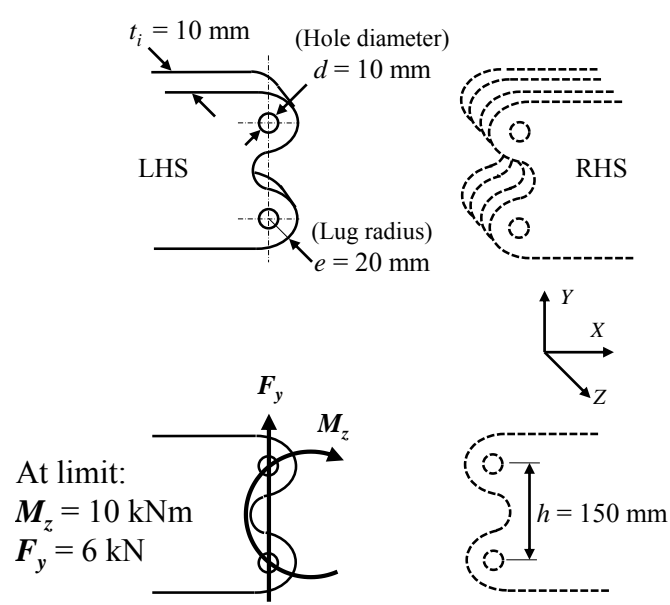

Figure Q3
c) Figure Q3 shows a double-shear twin-lug joint at the root of a light aircraft wing spar. The ‘limit case’ internal loading is shown at the end of the beam and these loads are reacted across the joint. The lug allowable strengths are given in Table Q3. Considering only the LHS lug modes of failure and using an ultimate safety factor of 1.5 calculate the lug stresses and reserve factors.